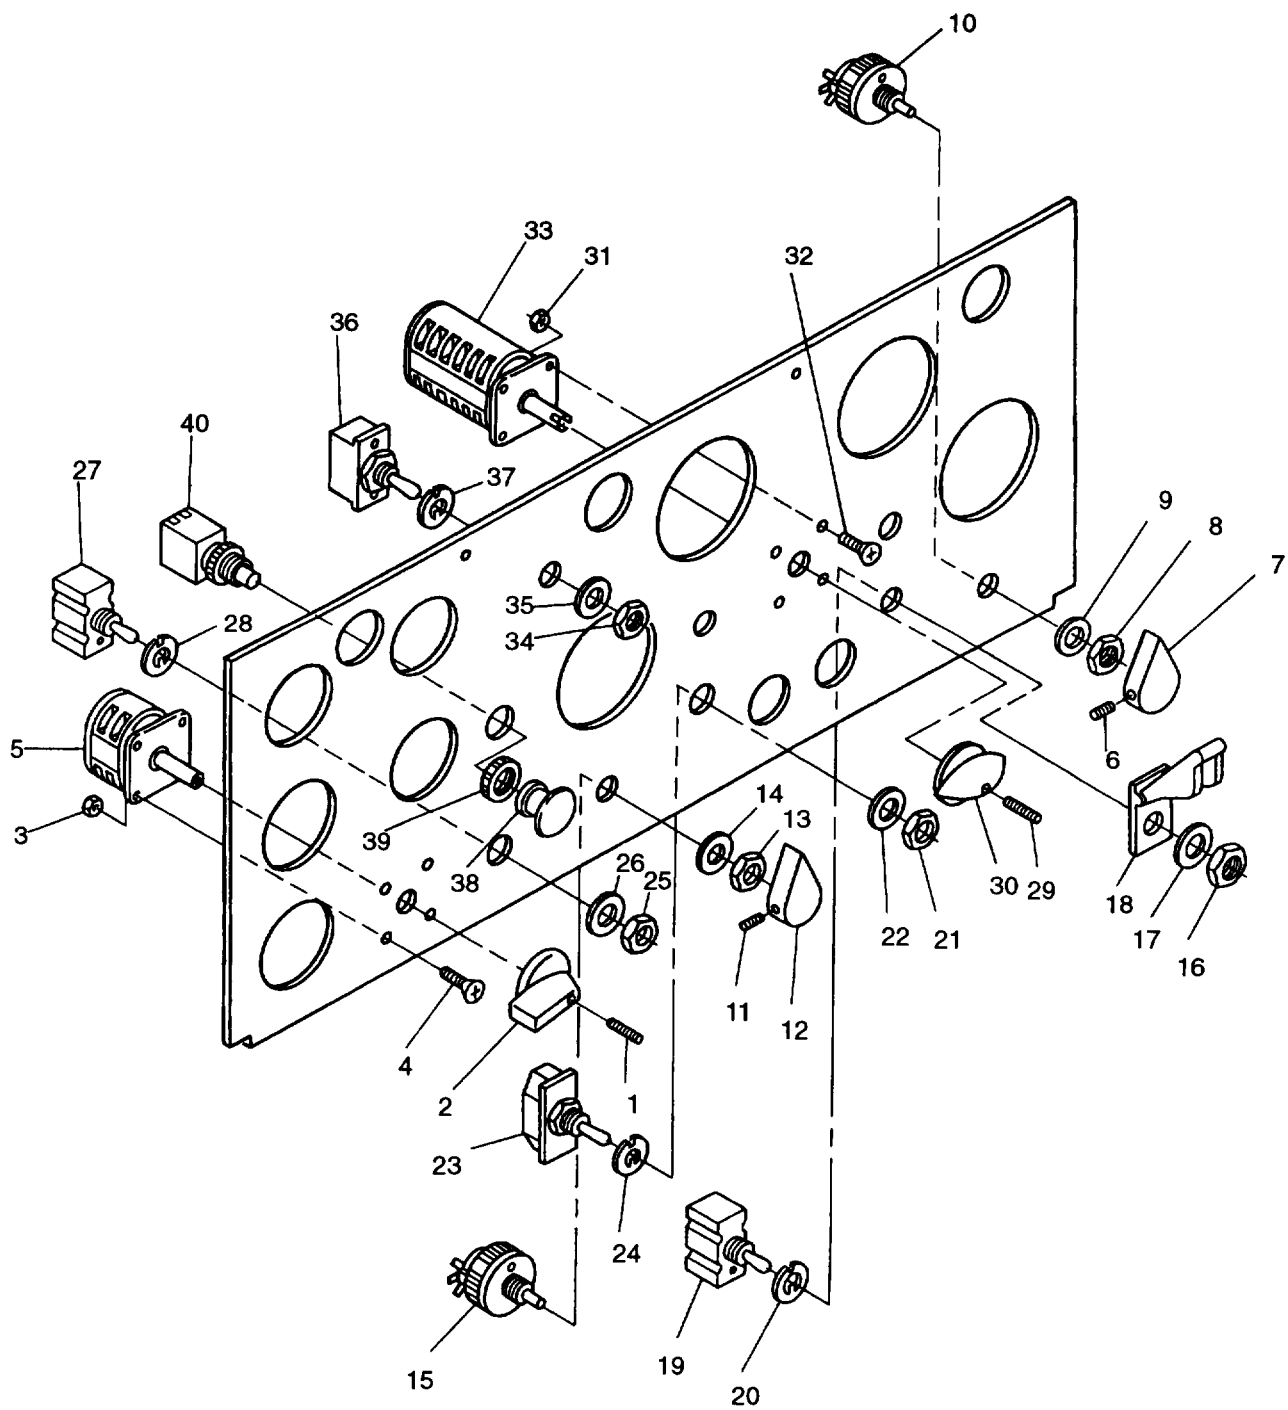

FIGURE 2-13. Control Panel Switches
- d. Tag and disconnect VOLTAGE adjust potentiometer (10, FIGURE 2-13) rheostat electrical leads using soldering gun. Remove shrinkable tubing
- e. Remove set screws (6) and knob (7).
- f. Remove nut (8) and washer (9).
- g. Remove VOLTAGE adjust potentiometer (10) from control panel.
- a. Insert VOLTAGE adjust potentiometer (10, FIGURE 2-13) into control panel.
- b. install washer (9) and nut (8).
- c. Install knob (7) and set screws (6).
- d. Tag and disconnect FREQUENCY adjust potentiometer (15, FIGURE 2-13) electrical leads using soldering gun. Remove shrinkable tubing.
- e. Remove set screws (11) and knob (12).
- f. Remove nut (13) and washer (14).
- g. Remove FREQUENCY adjust potentiometer (15) from control panel.
- b. Set multimeter for ohms and connect across outer terminals of potentiometer (15, FIGURE 2-13). Multimeter should indicate between 4500 and 5500 ohms resistance.
- a. Insert FREQUENCY adjust potentiometer (15, FIGURE 2-13) into control panel.
- b. Install washer (14) and nut (13).
- c. Install knob (12) and set screws (11).
- d. Tag and disconnect BATTLE SHORT switch (19, FIGURE 2-13) electrical leads.
- e. Remove nut (16), washer (17), and protective rover (18).
- f. Remove BATTLE SHORT switch (19) from control panel and tab washer (20) from switch stem.
- j. Connect electrical leads to switch (19) and remove tags.
- a. Install tab washer (20, FIGURE 2-13) and insert BATTLE SHORT switch (19) into control panel,
- b. Install protective cover (18), washer (17), and nut (16).
- d. Tag and disconnect AC CIRCUIT INTERRUPTER switch (23, FIGURE 2-13) electrical leads.
- e. Remove nut (21) and washer (22).
- f. Remove AC CIRCUIT INTERRUPTER switch (23) from control panel and tab washer (24) from switch stem.
- n. Connect electrical leads to switch (23) and remove tags.
- a. Install tab washer (24, FIGURE 2-13) and insert AC CIRCUIT INTERRUPTER switch (23) into control panel.
- b. Install washer (22) and nut (21).
- d. Tag and disconnect PARALLEL-UNIT switch (27, FIGURE 2-13) electrical leads.
- e. Remove nut (25) and washer (26).
- f. Remove PARALLEL-UNIT switch (27) from control panel and tab washer (28) from switch stem.